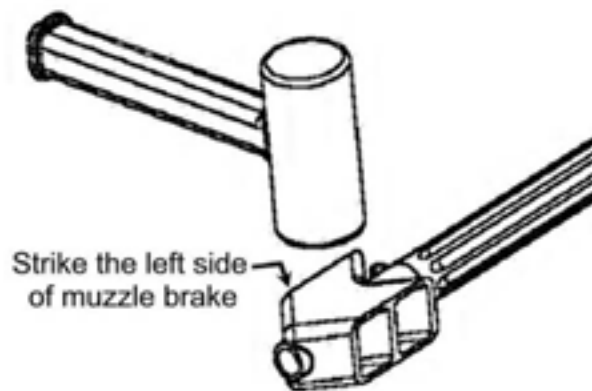

Figure 2-17b. Removing muzzle brake
- (2) Begin by facing the rifle muzzle looking down the barrel. Place RH side muzzle brake on a hard wooden worktable while suspending aft end of rifle. The LH side of the muzzle brake should be approximately $\frac{1}{4}$ in (6 mm) above table.
- (3) Use a large dead blow hammer to strike the left side of muzzle brake. (See Figure 2-17b) When muzzle brake is loose, unscrew by hand.